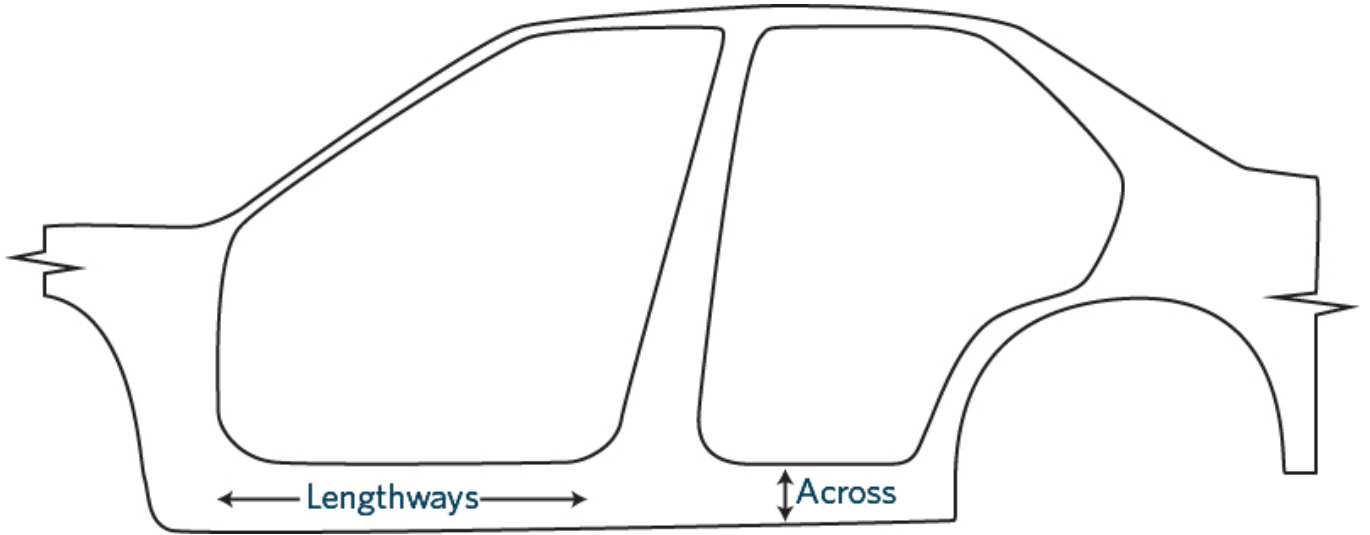

Figure 4-1-2. Structural corrosion damage limits
- any structural area, as indicated in the shaded areas of Figure 4-1-2
If there is perforated corrosion in any area (see Figure 4-1-2), the vehicle must be referred to a specialist repair certifier.